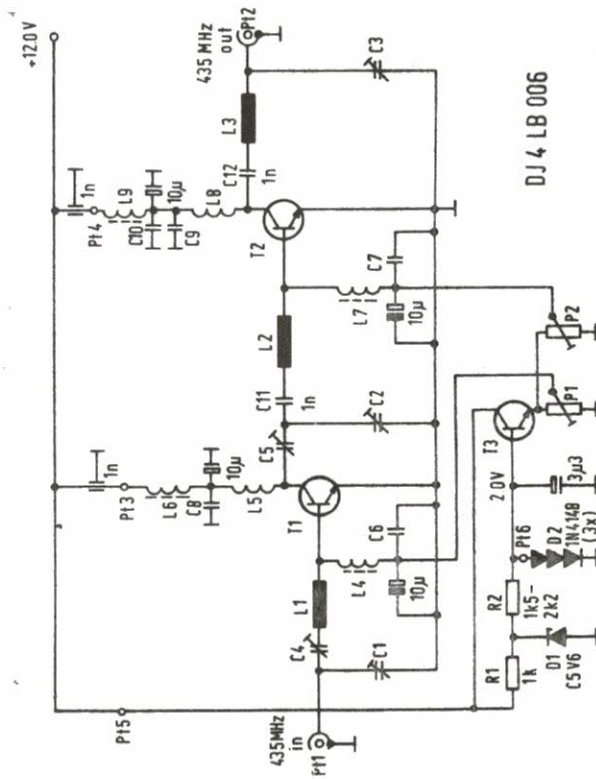

Fig. 1: 2-stage power amplifier for 70 cm ATV
The circuit diagram of the two-stage amplifier is given in Figure 1. It is formed from the two first stages of the DJ 3 SC amplifier. The modifications for ATV operation given in (2), have been taken into consideration. The output power is coupled out where the base of transistor T 3 is connected in the case of the three-stage DJ 3 SC amplifier. The original trimmer capacitor C 7 in series with L 3 can be deleted in our application without loss of output power, since the output impedance is 50 Ω.